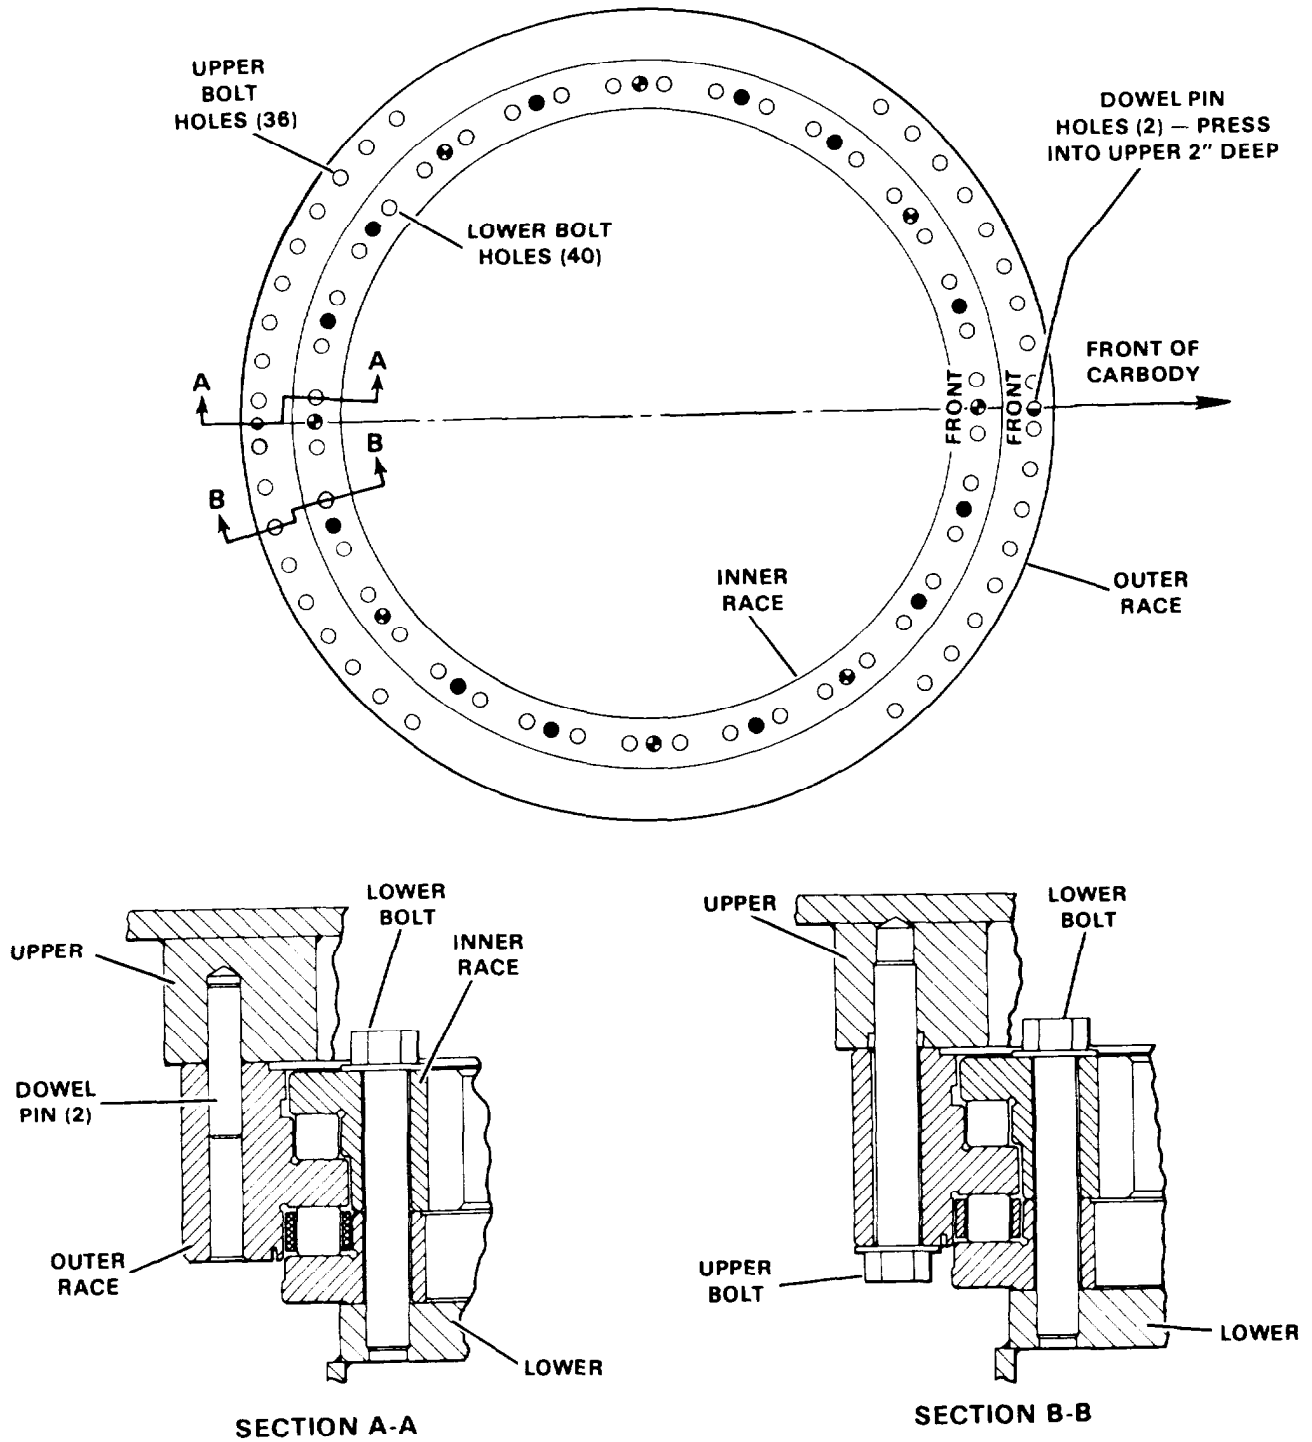

Figure 6G-1. Slewing Ring (2100J950)
REMOVAL. To remove the slewing ring, proceed as follows (see Figure 6G-1):
INSTALLATION. To install a new slewing ring, proceed as follows (see Figure 6G-1):
9. Press the two dowels 2 inches deep into the upper if they were removed. The dowel holes in the ring are indicated in Figure 6G-1 and Section A-A.